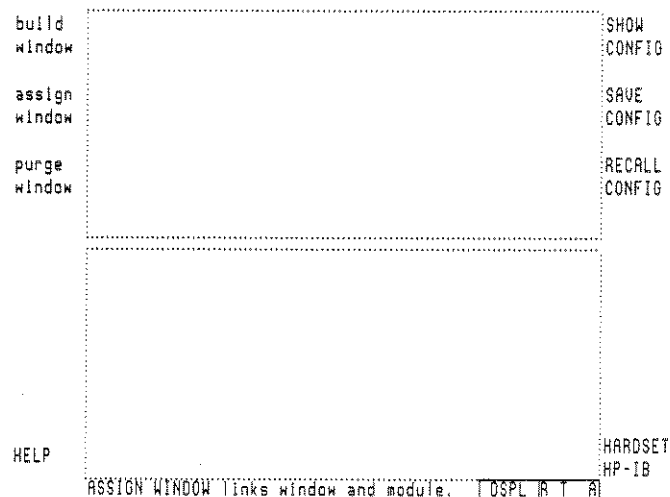

Fig. 20
2. Build two windows as in the **build window** example, leaving the screen with two blank, unassigned windows as in Figure 20. The lower window should be #1 and the upper window should be #2.